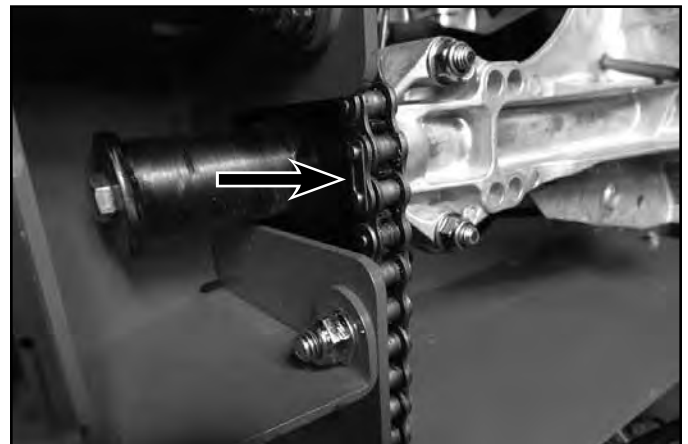

Fig. 144
6. Remove and retain the connecting link from the drive chains. Remove the drive chains from the transmission and tine sprockets (Fig. 144).